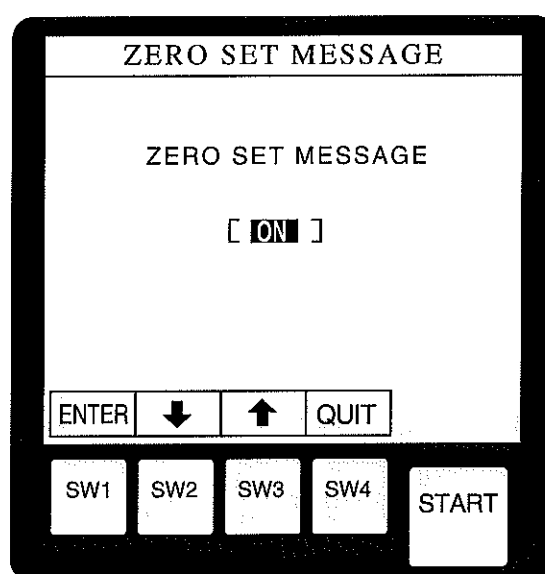

Fig.12-10
- The ZERO SET MESSAGE screen will be displayed on the panel. Using the SW2 (↓) or SW3 (↑) key, select [OFF] or [ON]. (Fig.12-10)